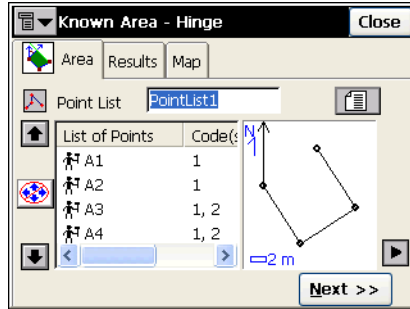

Figure 8-12. Known Area - Hinge – Area Tab 1
1. Select the point list, use the arrow buttons to change the order, as desired and tap the **Next** button (Figure 8-12 on page 8-12).